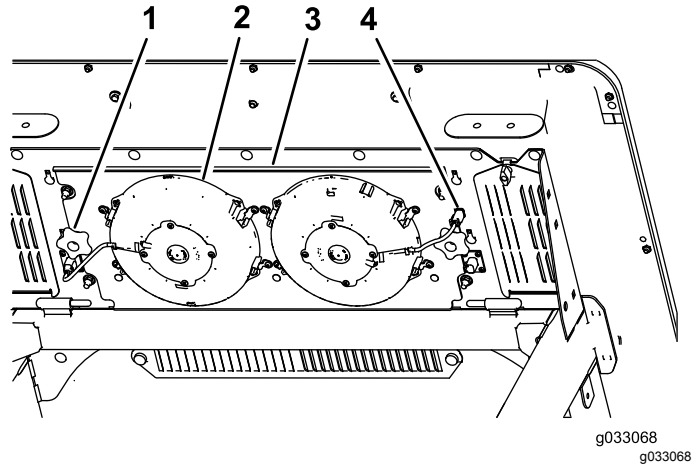

Figure 57
- 2. Tab (4)
3. Disconnect the plug and cord for the fans from the outlet (Figure 57).
4. Remove the 2 knobs that secure the fan-panel assembly and fans to the underside of the cab top (Figure 57) and remove the assembly.